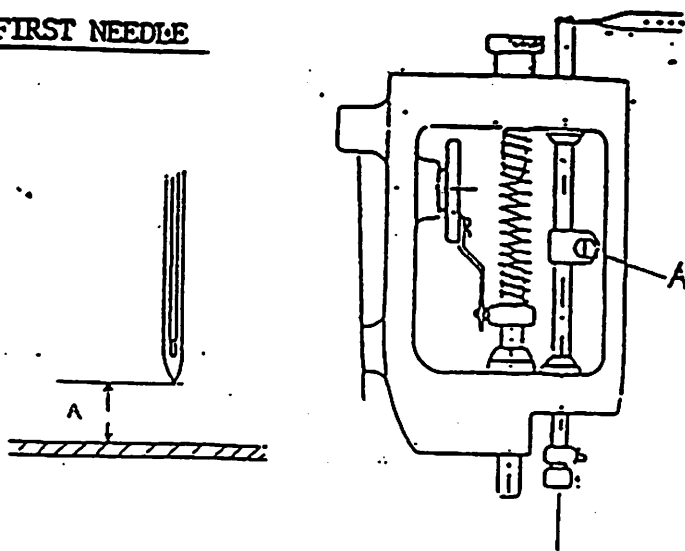

Fig. 4
7) Needle bar height (Fig. 4) ALWAYS FIRST NEEDLE